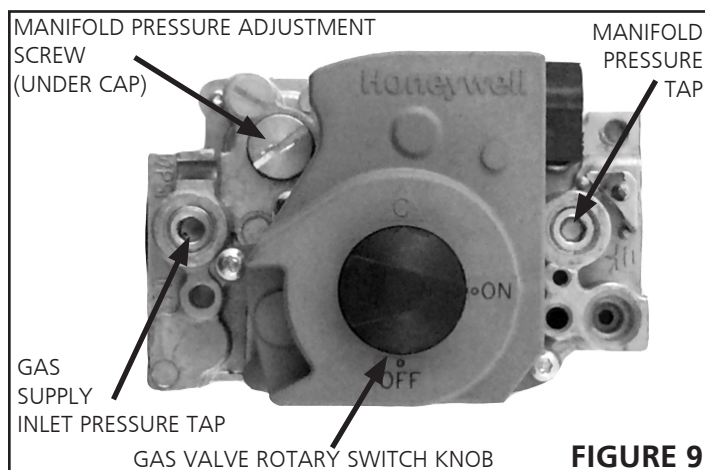

FIGURE 9
5. There is a black rotary switch knob that can be moved between the on and off position. Rotate the switch knob to the off position. (See Figure 9)
2. After line pressure has been checked and adjusted, check manifold pressure. Correct manifold pressure is shown on the unit rating plate. See **figure 9** for gas pressure adjustment screw location. A natural gas to LP/propane gas changeover kit is required to convert unit. Refer to installation instructions provided with changeover kit for conversion procedure.